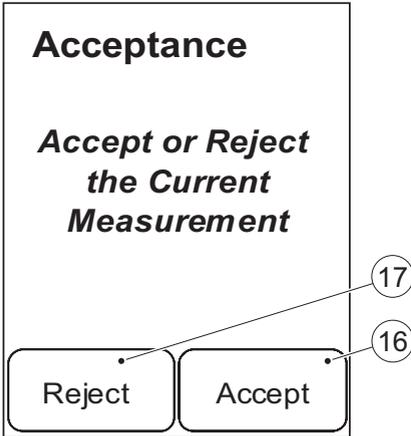

FIGURE 6-20
j) FIGURE 6-20 will be displayed.
The Waste bin (19) indicates that the result has been rejected (see FIGURE 6-20).
m) Press the Confirm button (20).